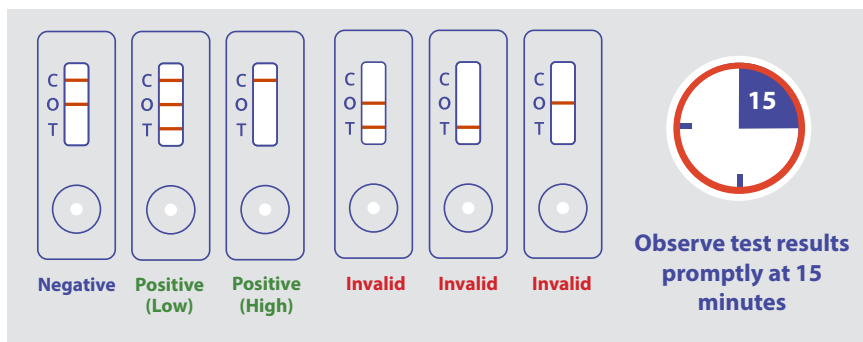

Figure 3. Interpreting Test Outcomes
**9.1.** A negative result is indicated by the development of a strong control line (C) and overload (O) line. An example of a negative result is depicted in **Figure 3** labeled "**Negative**".
**9.2.** Positive test results at lower analyte concentrations will result in the appearance of the test line (T) in addition to the overload line (O) and the control line (C). At higher analyte concentrations, both the test line (T) and the overload line (O) will disappear, leaving only the appearance of the control line (C). Thus at high analyte concentrations, the disappearance of the overload line (O) indicates that the sample is positive for the analyte regardless of the appearance of the test line (T). Examples of positive results are depicted in **Figure 3** labeled "**Positive**".